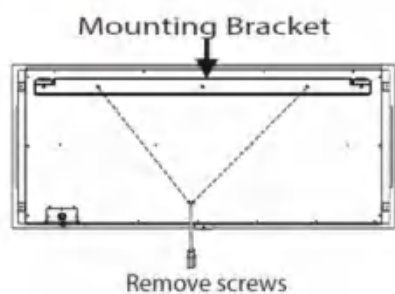

Figure 1
- B. Place the unit face-down on a soft, non abrasive surface. Remove the mounting bracket from the back of the unit by removing the screws. [Figure 1]